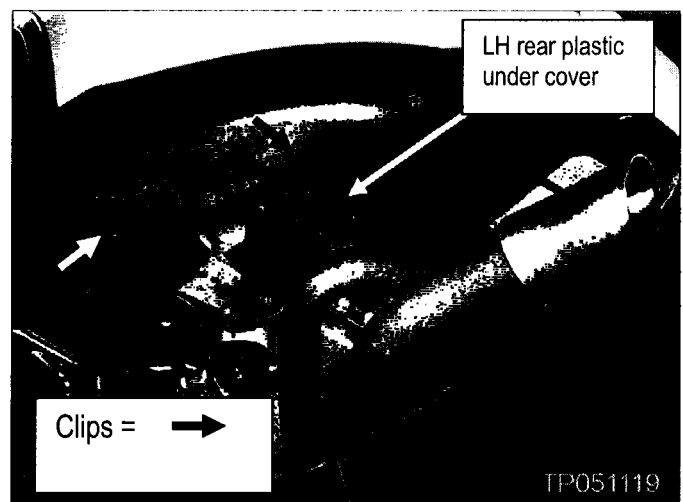

Figure 42
8. Below the plastic cover you just removed: release clips and remove the driver's (LH) side rear plastic under cover (see Figure 42).